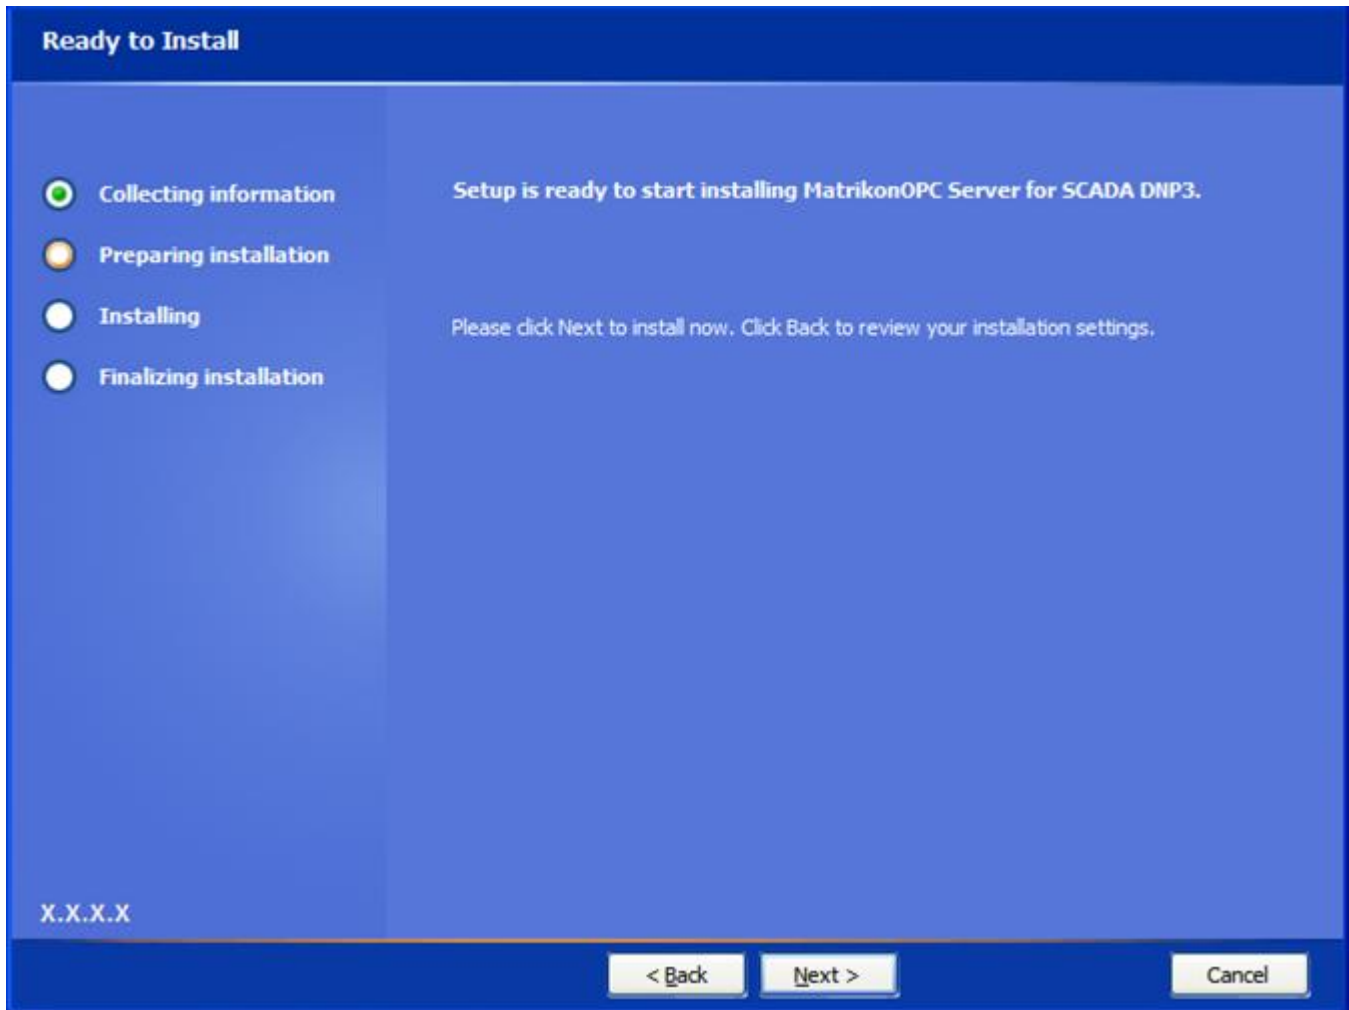

Figure 8 - Ready to Install Screen
15. Click on the **Next** button to accept the selected licensing option. The **Ready to Install** screen (Figure 8) appears.